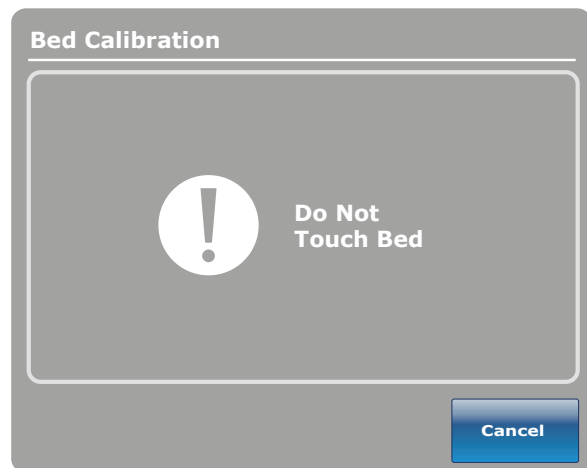

Figure 18: Do Not Touch Bed Screen
21. The "Do Not Touch Bed" screen will appear as shown in Figure 18.